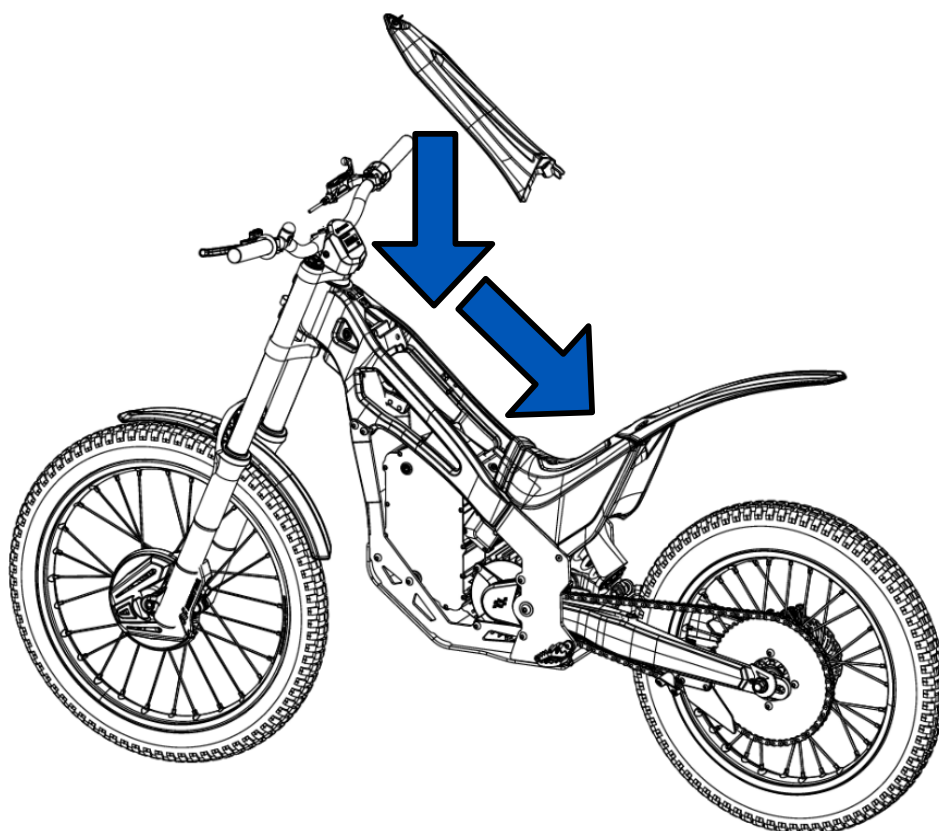

Fig. 42
- 6- Next, attach the upper casing to the frame (Figure 42).